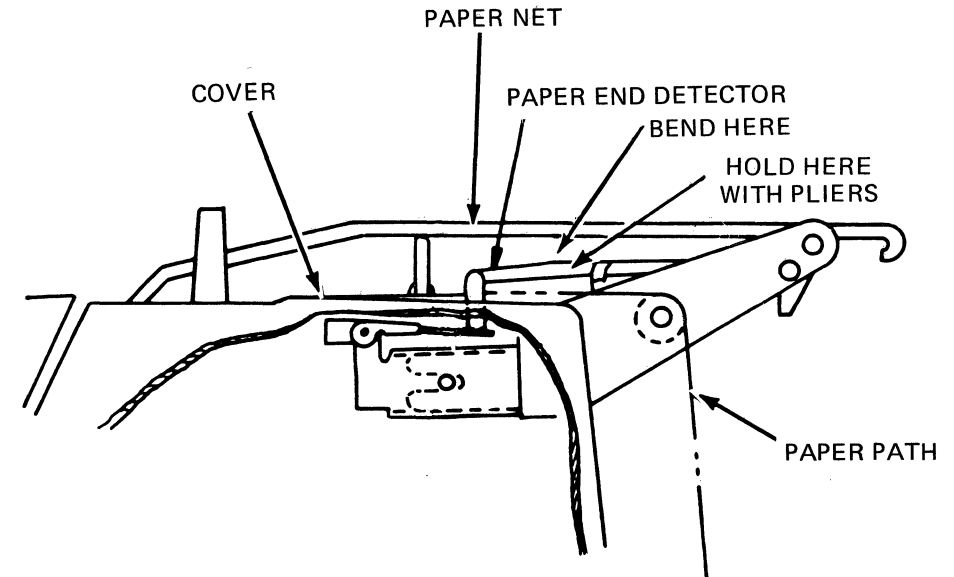

Figure 5-16 Paper Out Switch Adjustment
- a. With the paper properly loaded, the paper end detector must not contact the actuator of the paper out switch (see Figure 5-16).